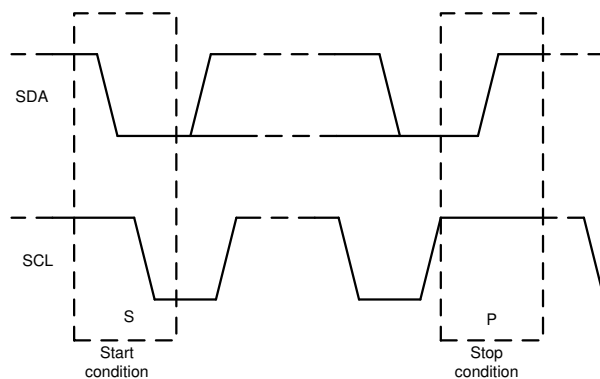

图 7-3. Start and Stop Conditions
1. The master initiates data transfer by generating a start condition. The start condition is when a high-to-low transition occurs on the SDA line while SCL is high, as shown in 图 7-3. All I²C-compatible devices recognize a start condition.